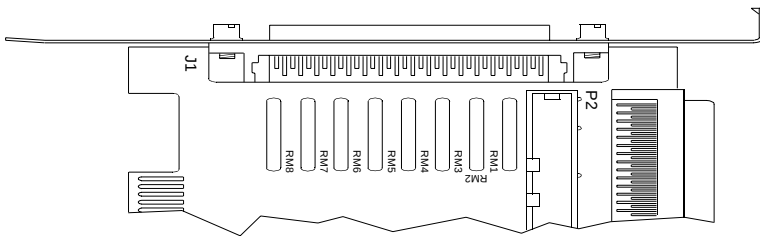
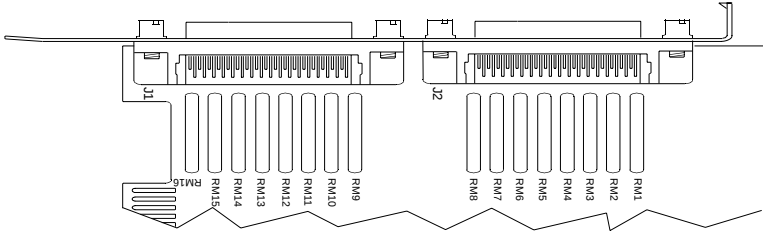

Figure B-1. QLA1041 Terminators
Figure B-5. QLA1240D Terminators
The first and last physical SCSI devices on each end of the SCSI bus must be terminated. Termination for the QLA1041/1240D boards is controlled by a set of resistors (terminators) labeled RM1-RM8 for the QLA1041 (see figure B-1) and RM1-RM16 for the QLA1240D (see figure B-5).
- ❑ If the board is not at one end of the SCSI bus or you are using **two** of the board's connectors, change the termination setting as follows (see figure B-1):
Termination for J1 and J2 is set independently; each is considered a separate SCSI bus. If only wide peripheral devices are connected to the QLA1240D board and the board is at one end of the SCSI bus, no changes are necessary. If you are connecting narrow SCSI devices or the board is not at one end of the bus, change the termination as follows (see figure B-5):